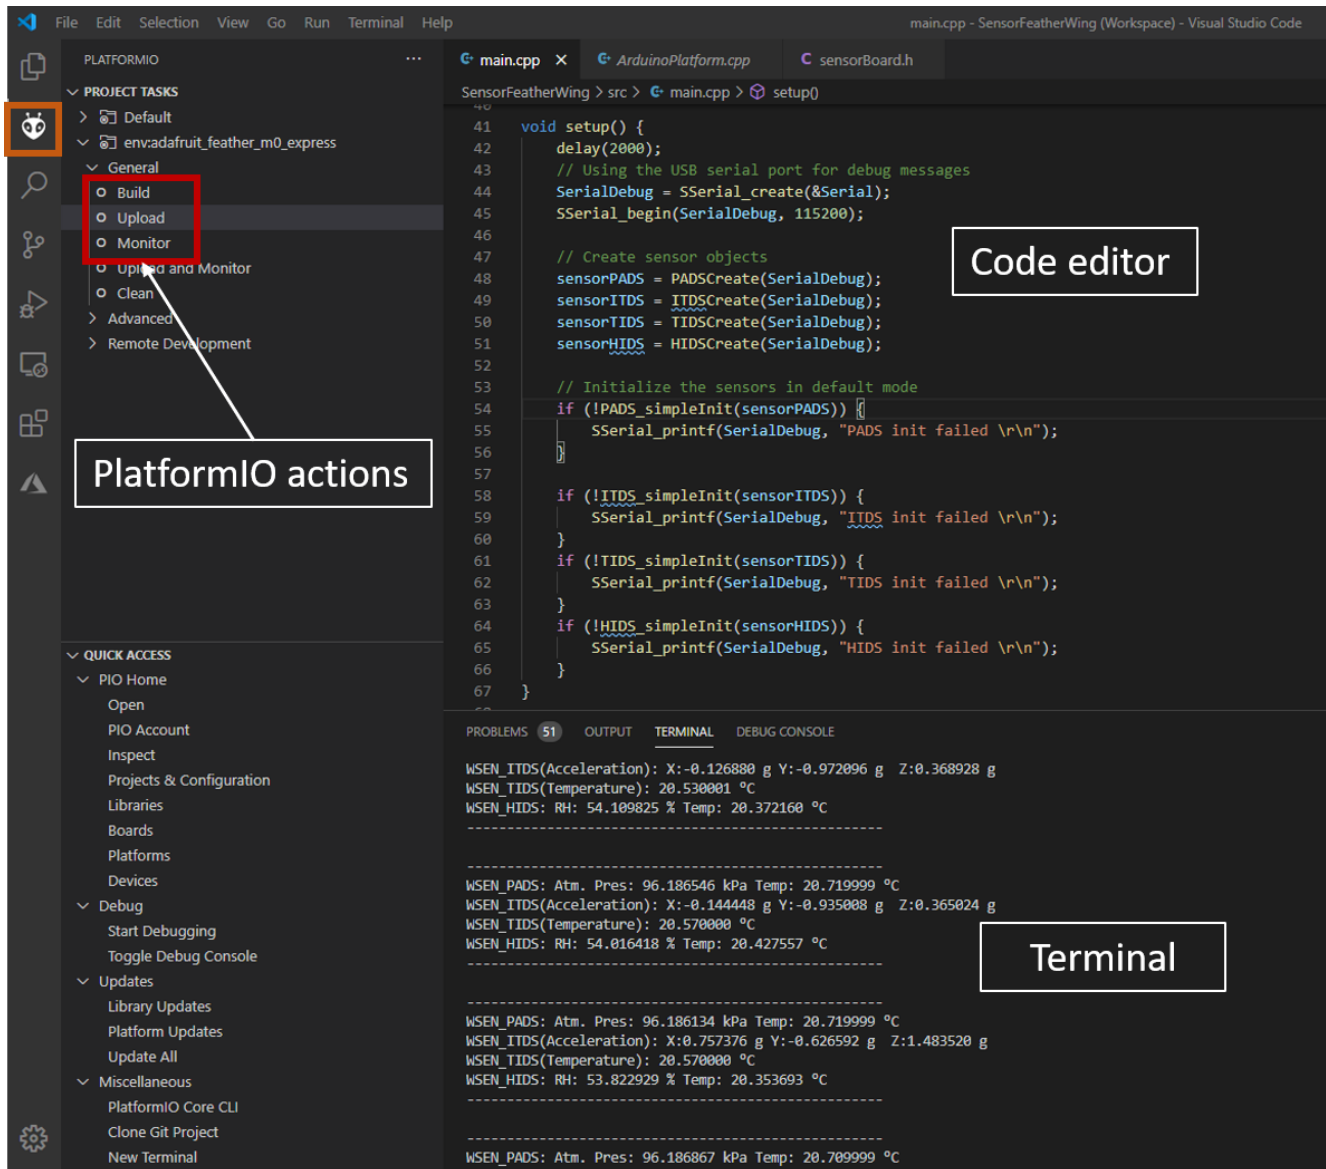

Figure 11: Running the quick start example
- Build and upload the code from the PlatformIO tab as shown in the Figure 11
- After successful upload, click on Monitor to view the debug logs in the serial terminal (see Figure 11).